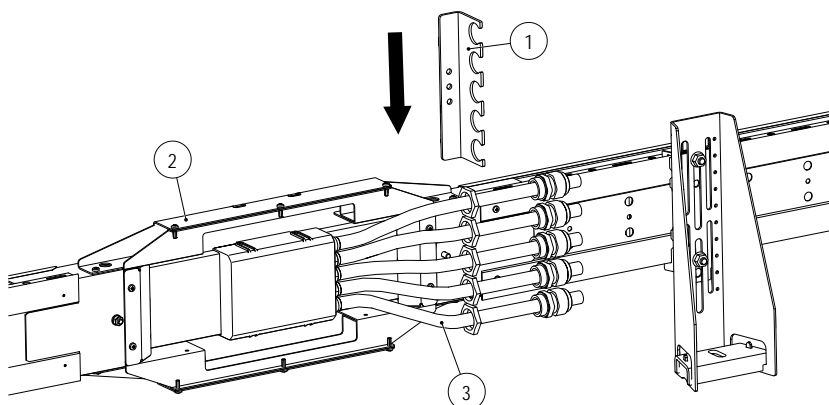

Fig. 74: Slide strain relief plate (1) behind the connecting cables
- Slide the strain relief plate (1) onto the fastening frame (2) and behind the connecting cables (3) so that the individual connecting cables are seated in the protrusions of the strain relief plate (1) (see Fig. 74).